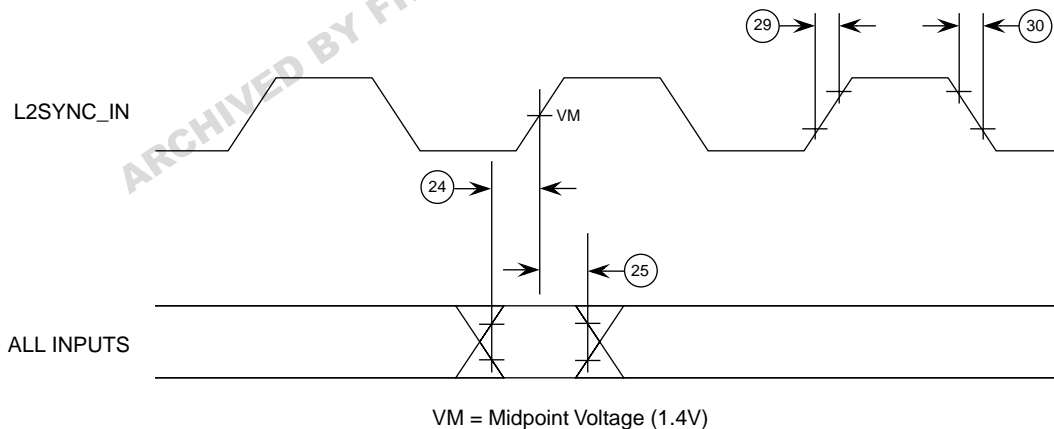

Figure 8. L2 Bus Input Timing Diagrams
1. All input specifications are measured from the TTL level (0.8V or 2.0V) of the signal in question to the midpoint voltage of the rising edge of the input L2SYNC_IN. Input timings are measured at the pins (see Figure 8).
Figure 8 shows the L2 bus input timing diagrams for the MPC750.